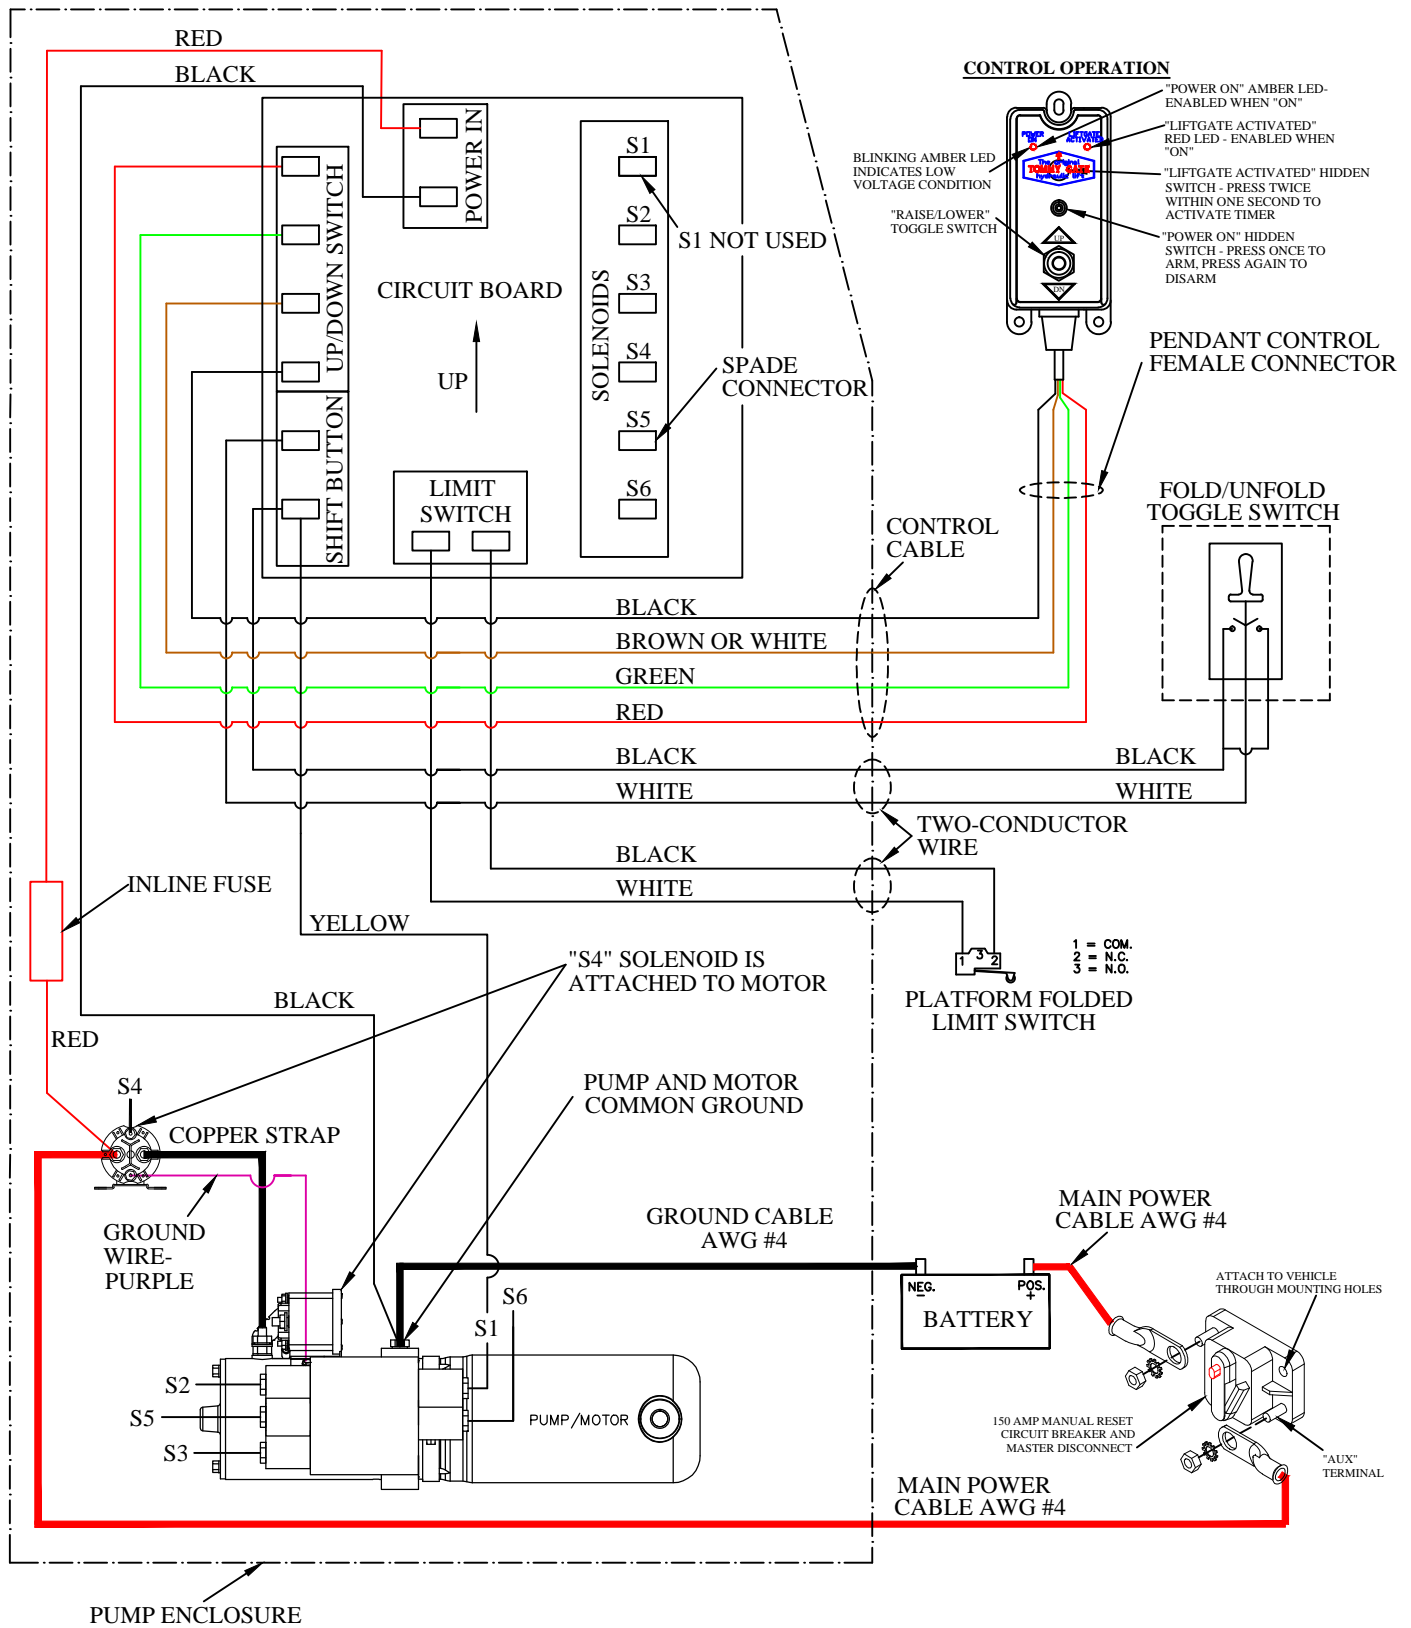

Figure 13: Wiring diagram.
9. Connect the circuit breaker and battery as outlined in the *Tommy Gate Recommended Electrical Wiring Guidelines* and wiring diagram (Figure 13).
15. Connect the wires to the toggle switch (Figure 13).
16. Install the supplied two (2) 1/4-20 self-tapping screws, through the mounting bracket, and into the door pillar.